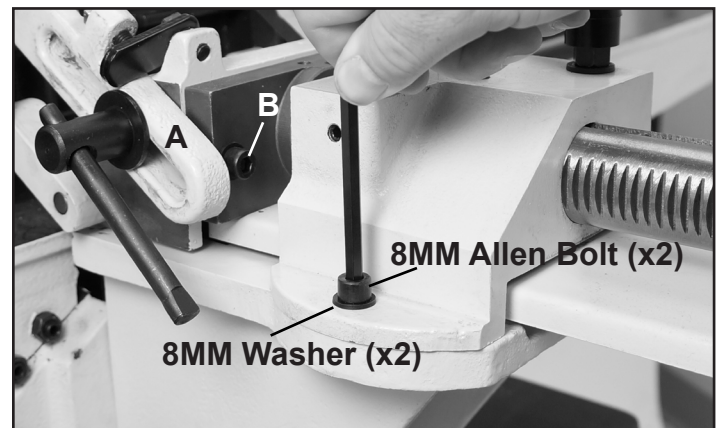

FIG. 9
Secure using two M8 x 20mm Allen bolts and two 8mm flat washers. FIG. 9.
4. Mount the Fence and Fence Angle Bracket to the Fence Slide Bracket Assembly by using two M8 x 25mm Allen bolts and two 8mm flat washers. FIG. 9